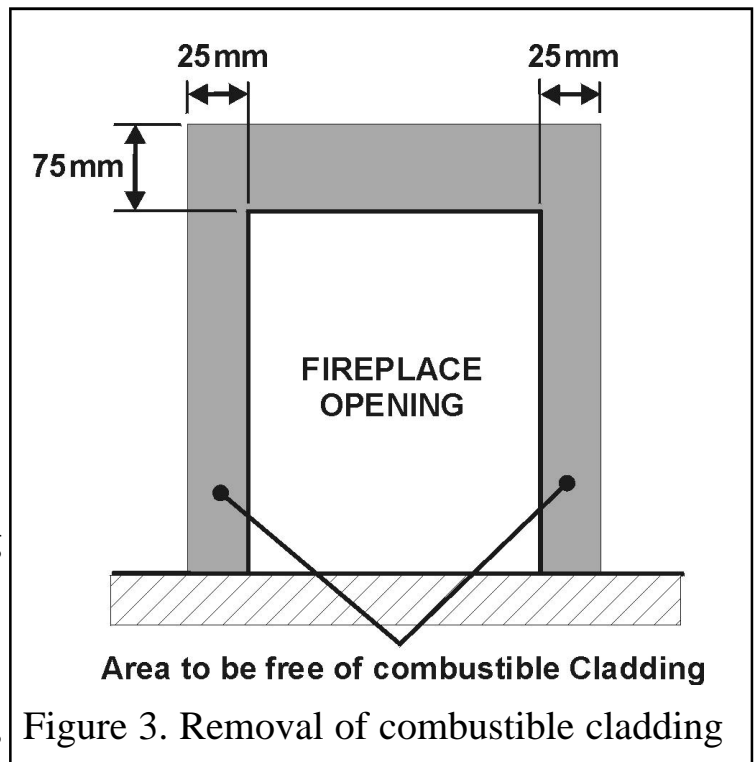

Figure 3. Removal of combustible cladding
3.13 If the appliance is to be fitted against a wall with combustible cladding, the cladding must be removed from the area shown in figure 3